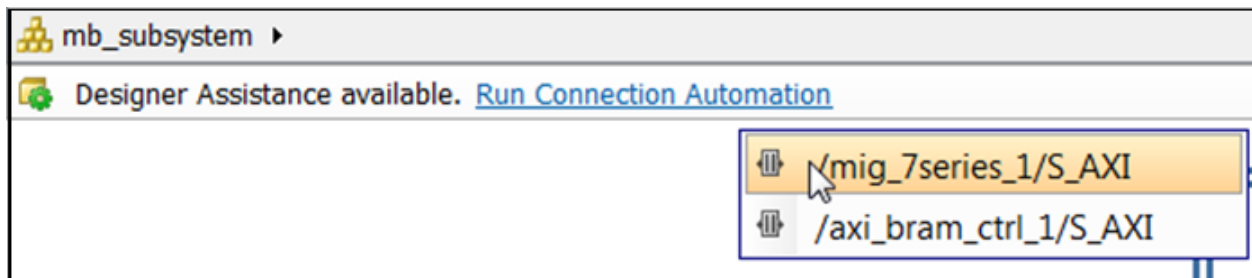

Figure 118: mig_7series_1/S_AXI
10. Click **Run Connection Automation**, and select `/mig_7series_1/S_AXI` (Figure 118).